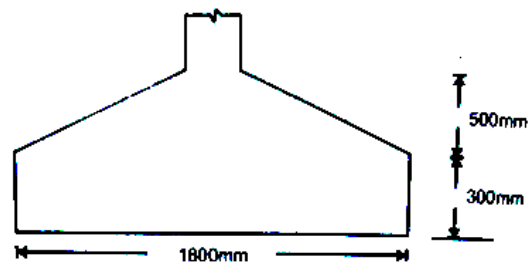

Fig.2
7. An R.C.C column footing of OHSR shown in fig.2, calculate the cement concrete quantity of the footing. (CO3)